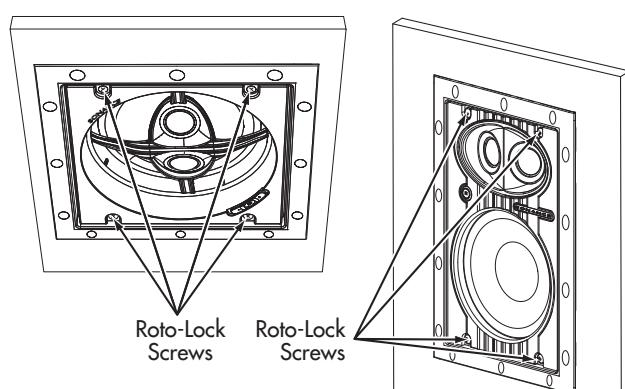

FIGURE 6: TIGHTENING THE ROTO-LOCK SCREWS
6. Tighten the four screws on the front of the speaker baffle (*Figure 6*). The Roto-Lock clamps will automatically rotate into position and begin clamping the speaker. When you notice resistance on the screws the speaker has been clamped successfully.